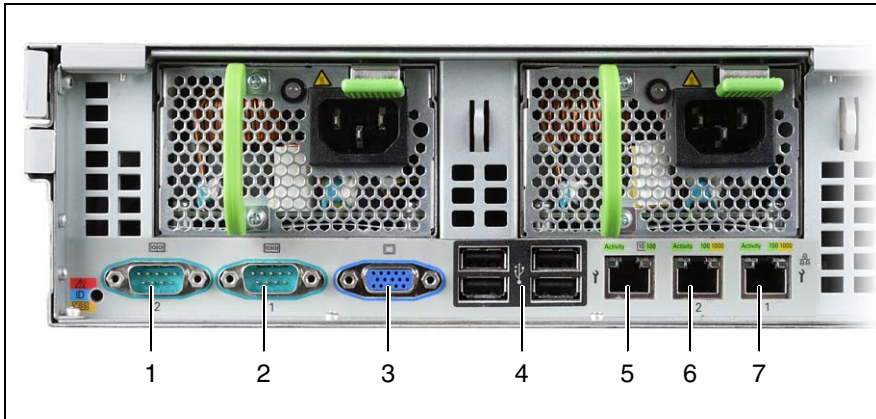

Figure 13: Connection panel on the rear
► Connect the monitor, keyboard and mouse to the standard connectors of the server (see table and figure 13 on page 60).